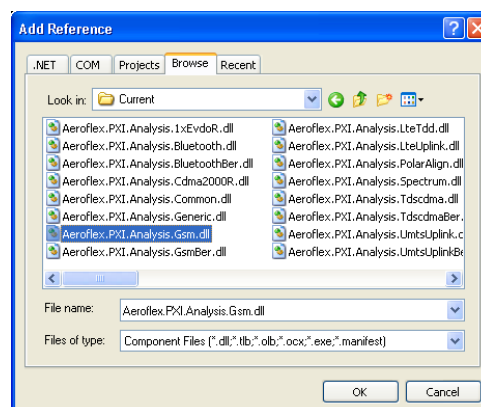

Figure 8 Selecting the GSM Analysis Library .NET DLL
- 4 From the dialog box that pops up click on the 'browse' tab and navigate to and add the following DLLs. See Figure 8.